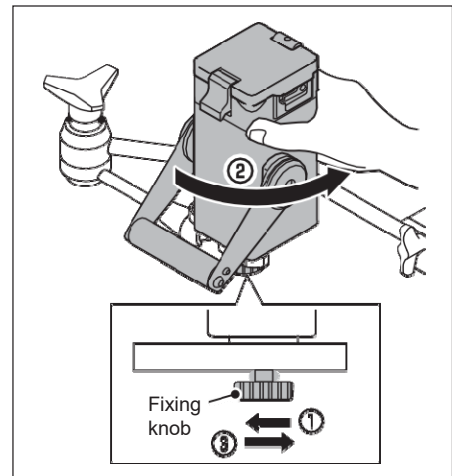

Figure 1-57
2. To change the direction of the Fast Clamp, hold the Fast Clamp, loosen the fixing knob by rotating counter-clockwise. (Figure 1-57 a) Rotate the Fast Clamp. (Figure 1-57 b) Then secure the fixing knob by turning clockwise. (Figure 1-57 c)